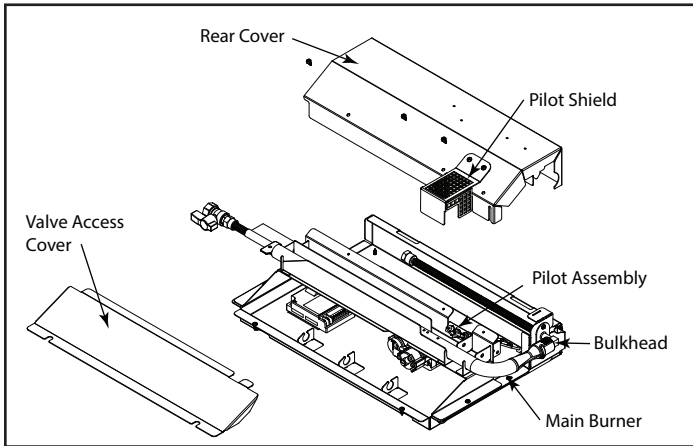

Figure 2
6. Remove Rear Cover by removing (3) screws securing cover to burner assembly. Lift Rear Cover and Pilot Shield straight up and set aside. See Figure 2.